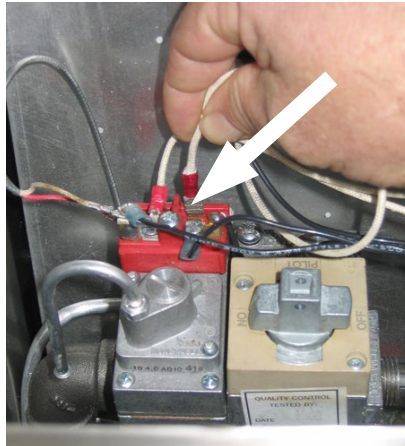

Figure 1: Unplug the white wire from the thermostat.
1. On the gas valve, remove the white wire coming from the thermostat (Figure 1). **NOTE: Gas valves differ in appearance. See wiring diagram on page 2 & 3.**